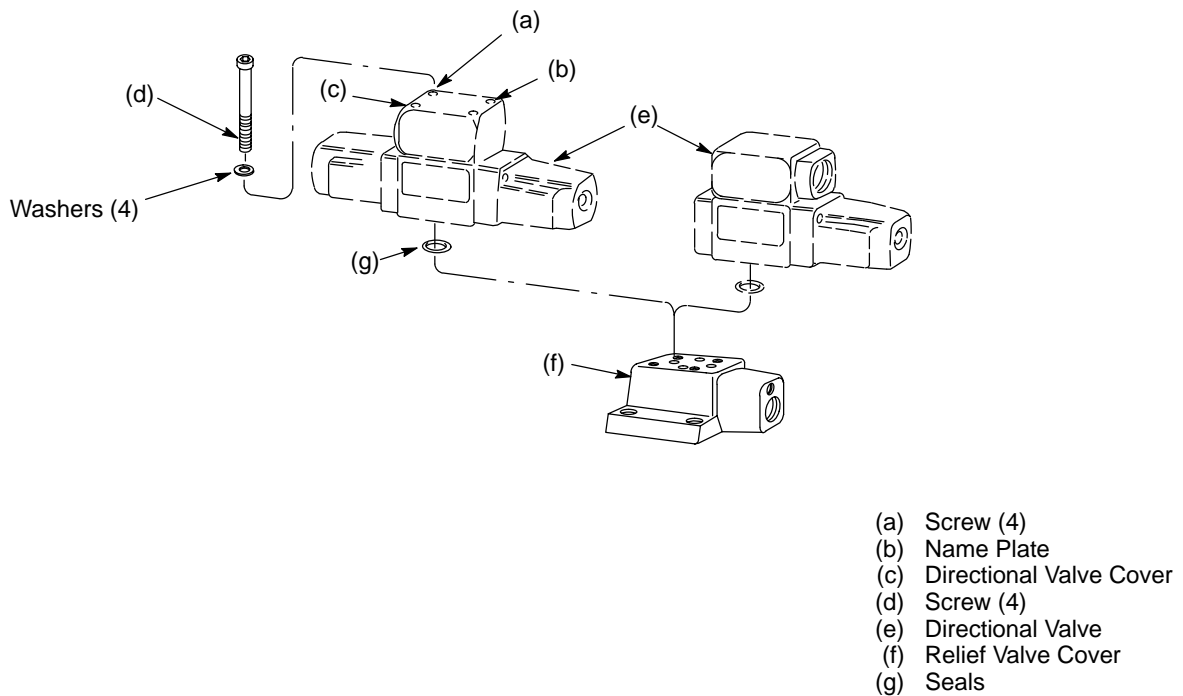

Figure 6. C\*5 Solenoid Controlled Relief Valve
11. Assemble directional valve on cover in reverse alphabetical sequence as shown in Figure 6. Torque screws (d) to 5.6 Nm. maximum (50 lb. in.).